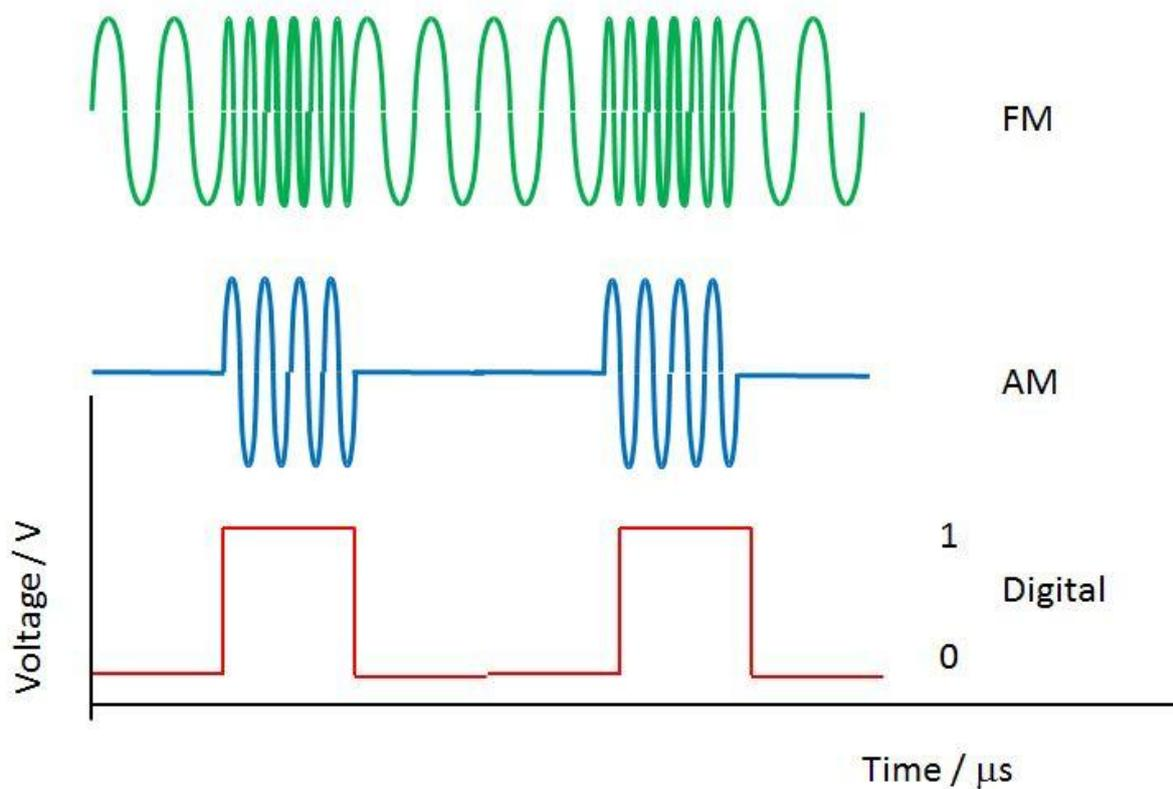

Figure 219 Transmission of data by radio waves
Digital data are transmitted as a series of pulses of value 1 (ON) and value 0 (OFF). When digital signals are sent by radio waves, they are carried like this (*Figure 219*):